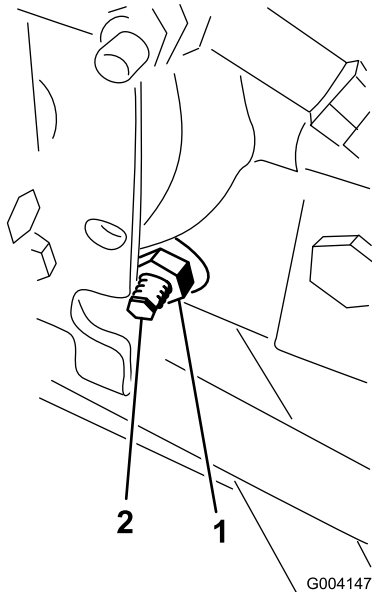

Figure 55
3. On the right side of the hydrostat, loosen the locknut on the traction adjustment cam (Figure 55).